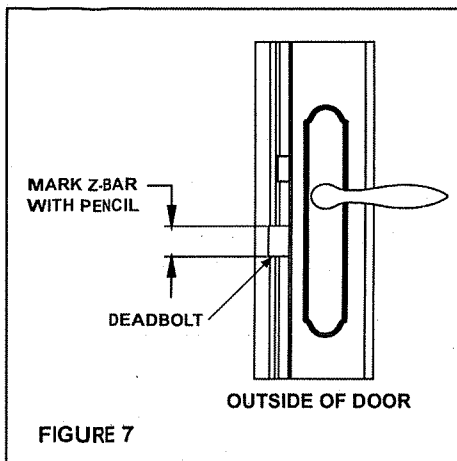

FIGURE 7
B. With the door open, extend the deadbolt fully. Carefully close door until deadbolt contacts the z-bar. With a pencil, mark the location of the top and bottom of the deadbolt onto the z-bar. See Fig. 7. Return the deadbolt to the fully retracted position.